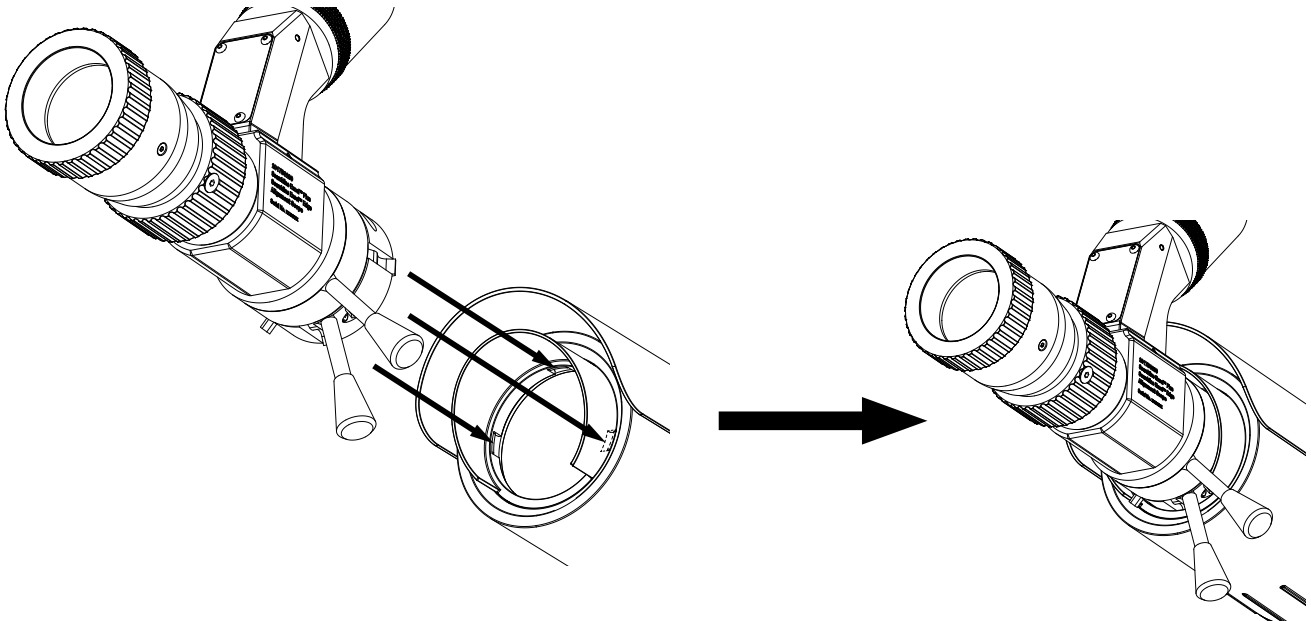

Figure 34. Fitting the Alignment Scope onto four slots
The basic procedure for aligning the transmitter and receiver is the same. The Searchline Excel Alignment Scope is used for both Searchline Excel Plus & Searchline Excel Edge and is simply attached to the front face of the transmitter and receiver (see Figure 34) and must be fitted to each of the instruments in turn, starting with the transmitter.
3. Push the Alignment Scope fully home onto the **four slots** on the instrument (see Figure 34).